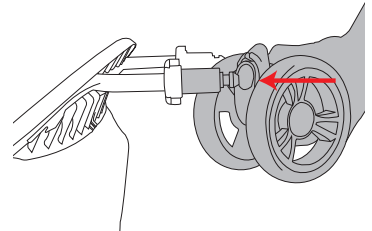

Figure 8
- Orient the stroller so it is resting on the rear wheels and the handlebar. Locate one front wheel set and orient the wheel set with the swivel lock tab facing upward. Insert it onto a plastic post located at the bottom front on one side of the stroller until an audible click is heard. See Figure 8.